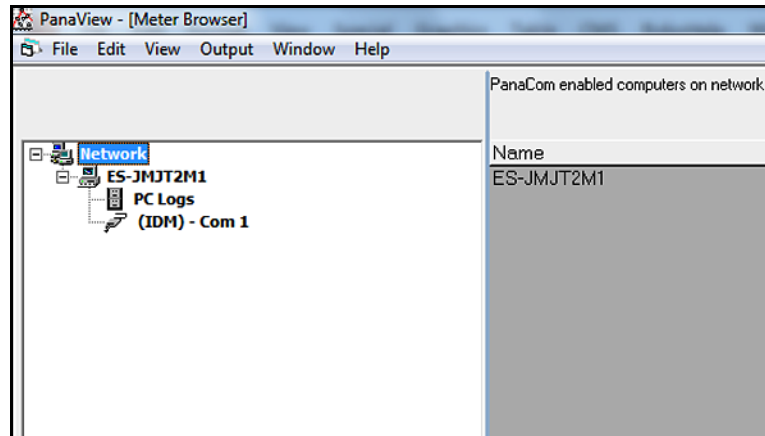

Figure 34: The New Serial Port Branch
1. Notice in *Figure 34* below that the network tree now has the newly configured communication port listed.